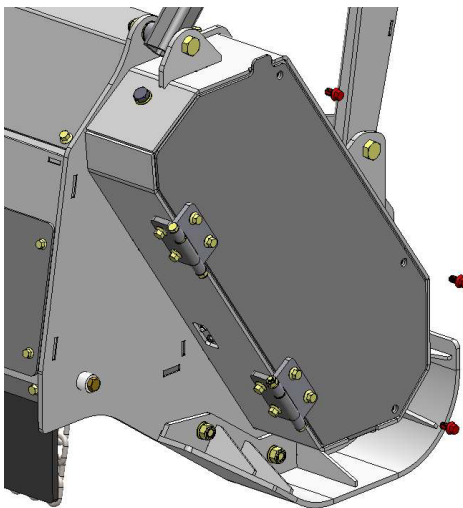

Figure 13
1. To open the drive belt access panel, remove the three (3) bolts on the hinged door. See Figure 13.